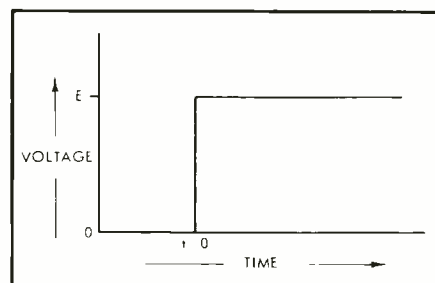
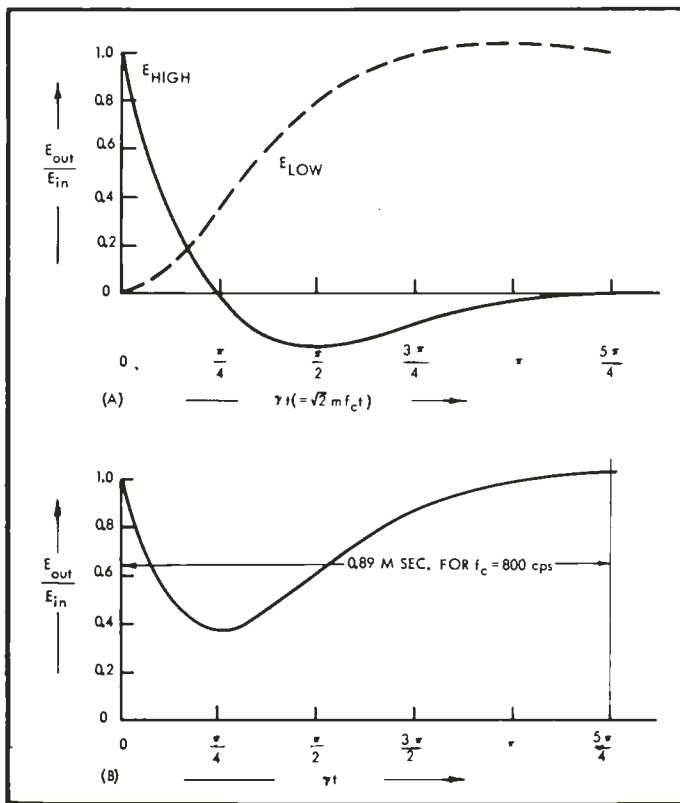

Fig. 3. Simple step function.
Fig. 4. (A) Plot of Eq. 2(A) and 2(B); (B) Plot of sum of the two equations.
About a year after the completion of two of these concrete horns, Altec Lansing began marketing an improved driver: the Altec 288C, which has a flatter response out to 16,000 cps (see Fig. 3). A new horn was designed for these newer models based on past experience. This is the unit which appears on the cover and is shown in detail in Fig. 4, and results in slightly less horn distortion. The new horn cutoff is set at 300 cps. Its length is 21 inches, with a radius of curvature of 20-inches. The
Fig. 3. Axial frequency response using an Altec Lansing 288C driver with a concrete sectoral horn having a cutoff frequency of 300 cps and a mouth area of 552 sq. in. as in Fig. 4.
Fig. 4. High frequency concrete exponential sectoral horn for Altec Lansing 288C driver. Horn consists of two identical castings cemented together and a hexagonal flange for mounting the driver. Flange is made from two pieces of 1/16-in. sheet steel and is not shown in this drawing.
These two voltage outputs are plotted in (A) of Fig. 4. It would seem that adding these two responses would not recreate a step function (which would be necessary for perfect response). The sum itself is shown in (B) of Fig. 4, and it certainly is not a step function.
A simple signal which will permit display of the complete transient response of any network is the step-function. This is shown in Fig. 3. As will be recognized, this is nothing more than half of a square-wave, which has long been used as a transient testing signal. In complex-frequency notation the step function is represented by E/s , where E is the amplitude of the voltage. To obtain the output expression of a network, knowing its transfer function and the "s" form of the input signal, we need only multiply them. We then look up the resultant expression in a table of Laplace transforms. The table will give us the response expressed as a function of time. Doing this for the above network we find that